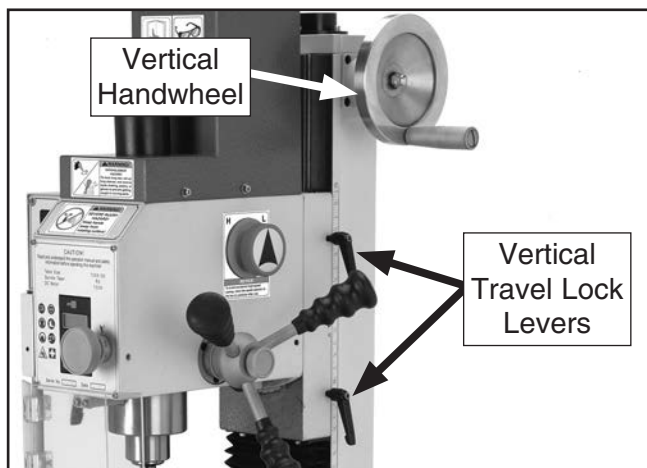

Figure 28. Headstock slide controls.
1. Unlock the vertical travel lock levers shown in **Figure 28**.
2. Turn the vertical handwheel shown in **Figure 28** to raise or lower the headstock, then lock the vertical travel lock levers.